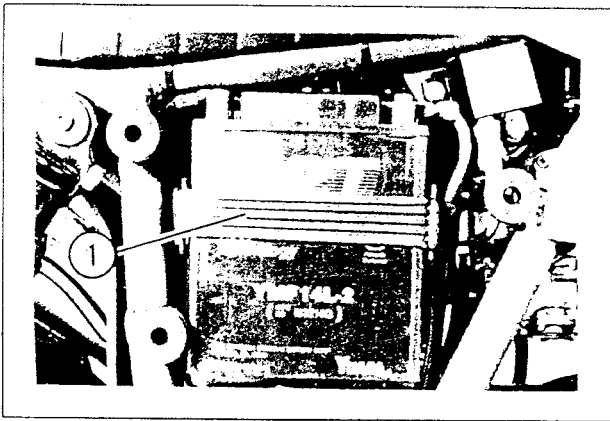
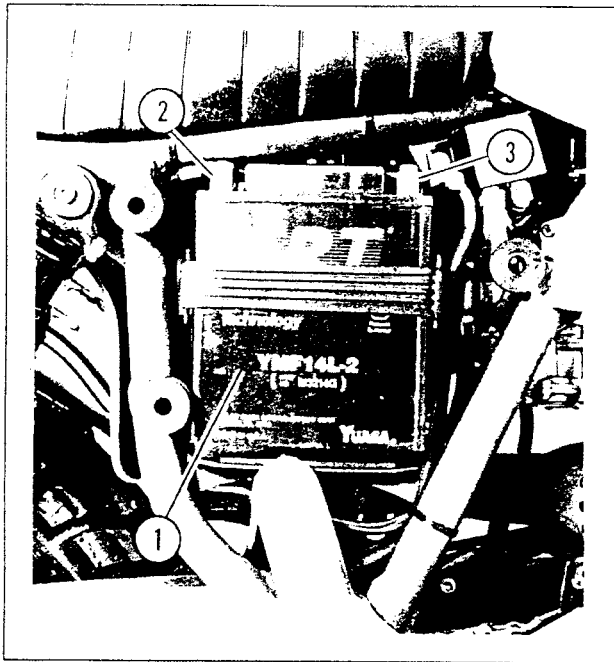

Figure 5-8. Battery Retaining Strap
Figure 5-9. Removing Battery
4. See Figure 5-9. Using a 10mm open end wrench or a cross tip screwdriver, loosen negative terminal screw (2) and disconnect negative (-) cable.
5. In a similar manner, disconnect positive (+) cable (3) from battery.
6. Remove battery (1) from vehicle. See Figure 5-9.
1. See figure 5-9. Place battery (1) on tray in vehicle, leaving enough distance to connect cables.
2. Using a 10mm open end wrench or crosstip screwdriver, connect positive (+) cable to positive battery terminal (3) and coat terminal with petroleum jelly.
3. In a similar manner, connect negative (-) cable to negative terminal (2).
4. Slide battery (1) all the way onto tray in vehicle frame.
5. See Figure 5-8. Latch elastic retaining strap (1) to catch on frame to secure battery.